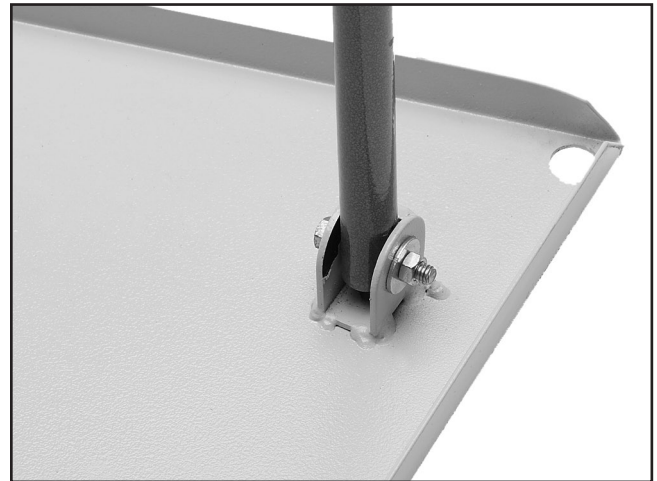

Figure 15. Leg secured.
3. Secure the leg with the hardware removed in **Step 1**, as shown in **Figure 15**.